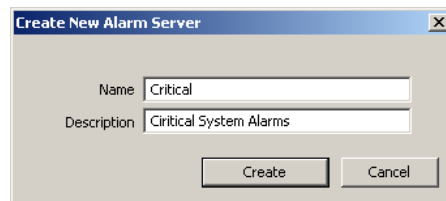

Figure 103: Create New Alarm Server dialog box.
3. In the **Create New Alarm Server** dialog box (as shown in Figure 103) enter **Name** and **Description** of the alarm server.